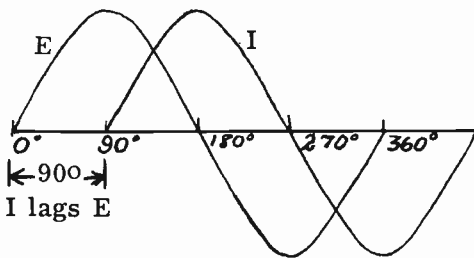

FIG. 4-16.
**PHASE ANGLE OF AN INDUCTIVE CIRCUIT.** If AC is applied to an ordinary resistive circuit, the voltage and current are in phase with one another. However, this is not true if AC is applied to an inductive circuit. If we apply AC to a "pure" inductive circuit (one that contains only inductance and no resistance), the current will lag the impressed voltage by  $90^\circ$ . This is illustrated in Fig. 4-16. The waveform E starts  $90^\circ$  ahead of the